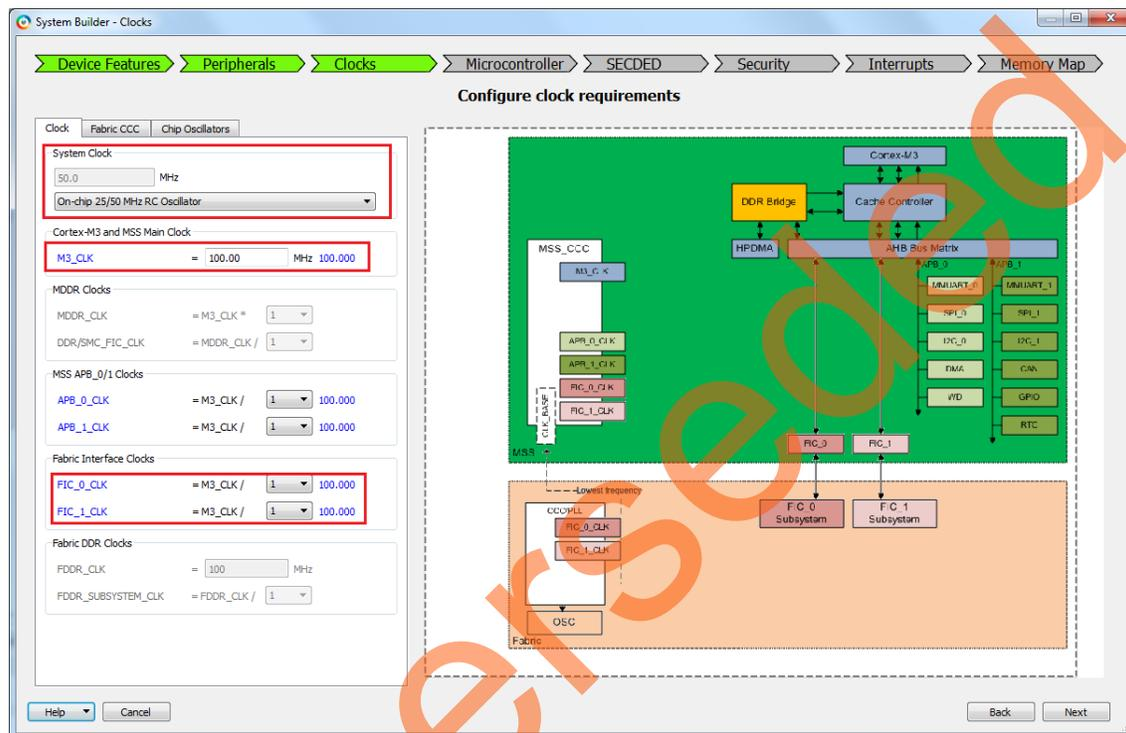

Figure 14 • SmartFusion2 System Builder Clocks
15. Select **Next**. **System Builder- Clock Settings** page is displayed, as shown in Figure 14. Select the Following options: